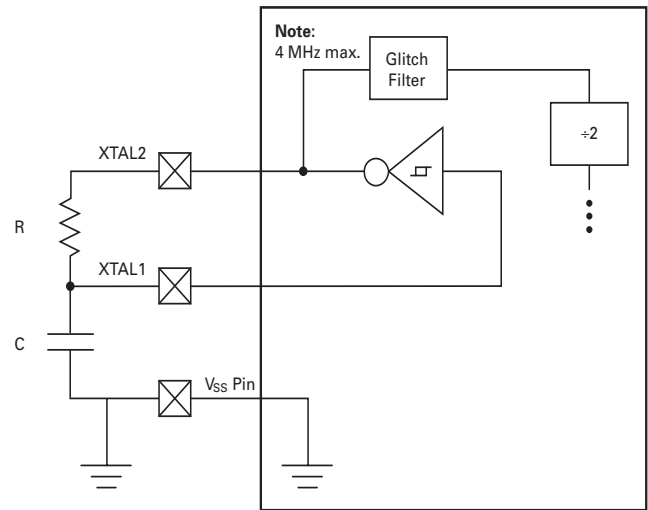

Figure 13. Z8Plus in RC Oscillator Mode
By selecting the RC OSCILLATOR option in the graphical user interface (GUI), the circuit may instead be driven by an external Resistor and Capacitor (RC) oscillator. Figure 13 illustrates this configuration. This design is limited to no more than 4 MHz to restrict EMI noise.